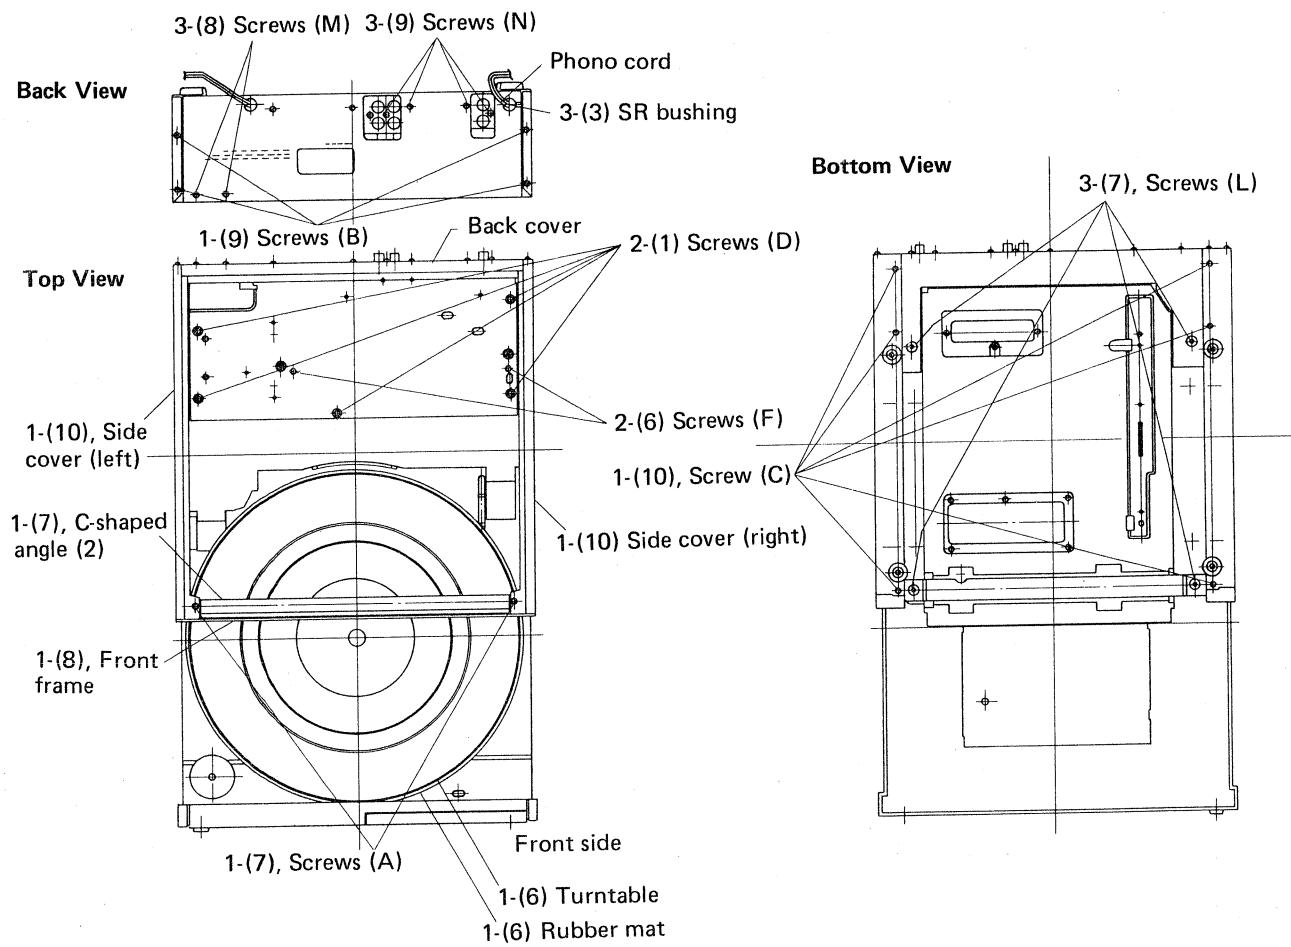
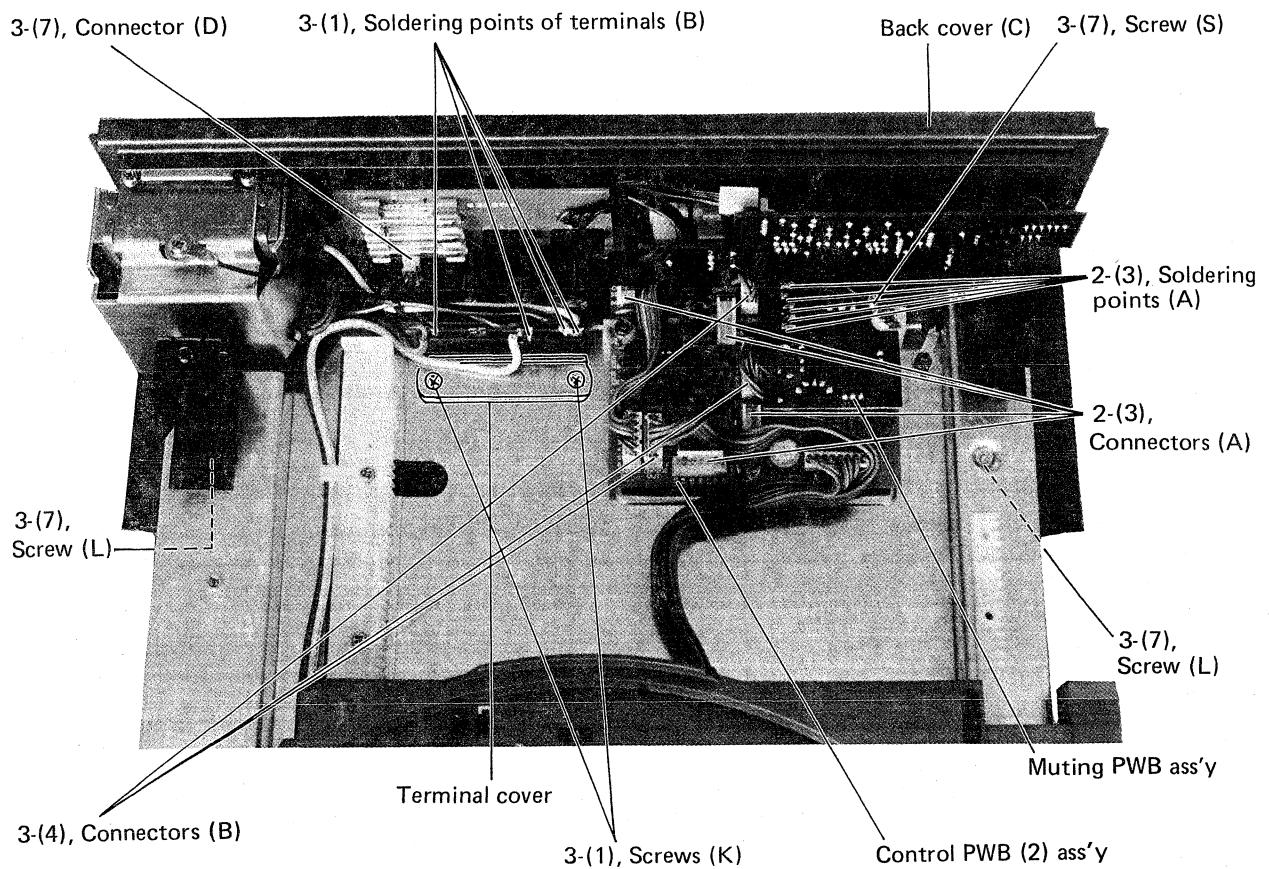

Fig. 1
Fig. 15
### 1. Disassembling Housings (See fig. 1)
- (1) Move tonearm base to the center of guide bar and then remove 5 pcs. of screws (D) from tonearm chassis. (See fig. 1, 2)
- 3. Remove 2 pcs. of screws (F) from bottom side of tonearm chassis. (See fig. 1, 2)
- (1) Unsolder 4 pcs. of terminals (B) and remove 2 pcs. of screws (K) from terminal cover. (See fig. 15)
- (2) Unsolder a grounding wire of back cover (C) from muting circuit ass'y. (See fig. 15)
- (3) Remove phono cord and SR bushing from back cover. (See fig. 1)
- (4) Disconnect connector (B) connected between back cover PWB and Control PWB (2). (See fig. 15)
- (5) Push down brush into cabinet.
- (6) Place turntable unit onto the table upside down.
- (7) Remove 2 pcs. of screws (L) from back cover so that the cover is disassembled. (See. fig. 1, 15)
- (9) Remove 4 pcs. of screws (N) from back cover so that power supply circuit (2) is dismounted. (See fig. 1, 9)